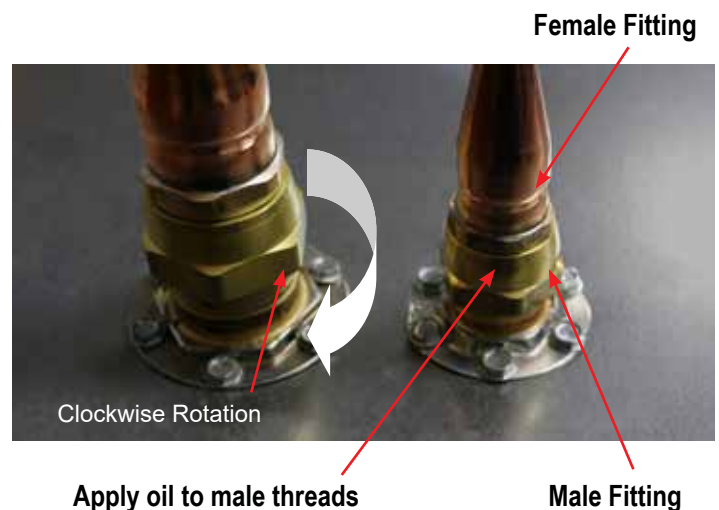

Figure 14 - Resealable Fittings
1. Temporarily hand thread the female halves of the resealable fittings (supplied with the interconnect kit) onto the male couplings, approximately 1 to 1-1/2 turns. This is to make sure that the interconnecting tubing will be routed and brazed with the resealable fittings in their final proper location, so that there will be no difficulty when the final coupling assembly is made. (refer to Figure 14)